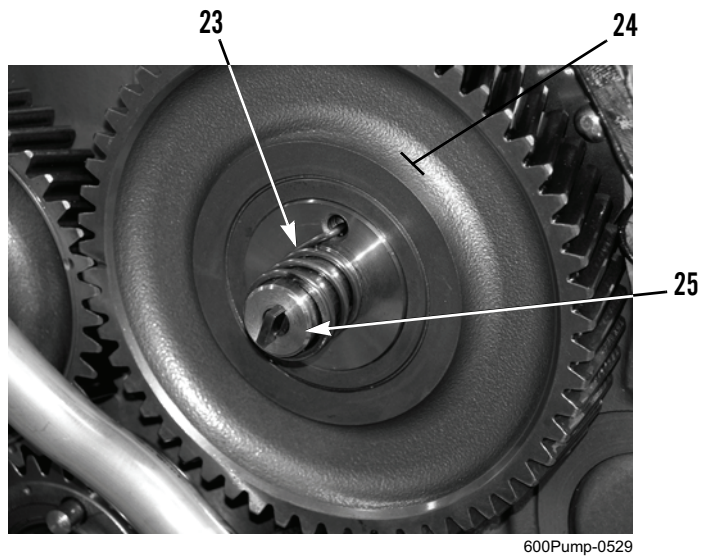

Figure 8. Spring on Camshaft Gear and Camshaft
1. Install angled end of compression spring (Figure 8, Item 23) in hole of camshaft gear (Figure 8, Item 24) and on camshaft (Figure 8, Item 25).